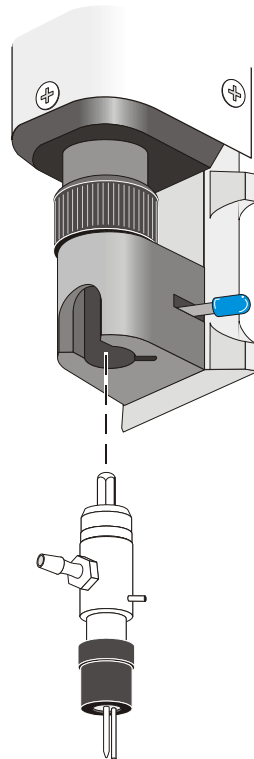

Figure 4-3 Cartridge Loading: DV-7000
5. Push the cartridge into the valve body making sure to align the guide pin (Figure 4-3).